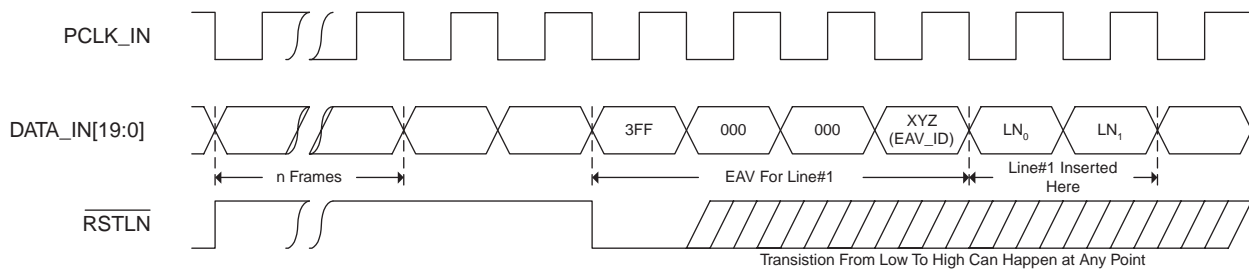

Fig. 2 $\overline{\text{RSTLN}}$ Timing
| 9 | $\overline{\text{RSTLN}}$ | Synchronous wrt PCLK_IN | Input | Control Signal Input. This is the line number reset signal. A high-to-low edge of this signal resets the line number counter of the device to one (1). See Figure 2. |